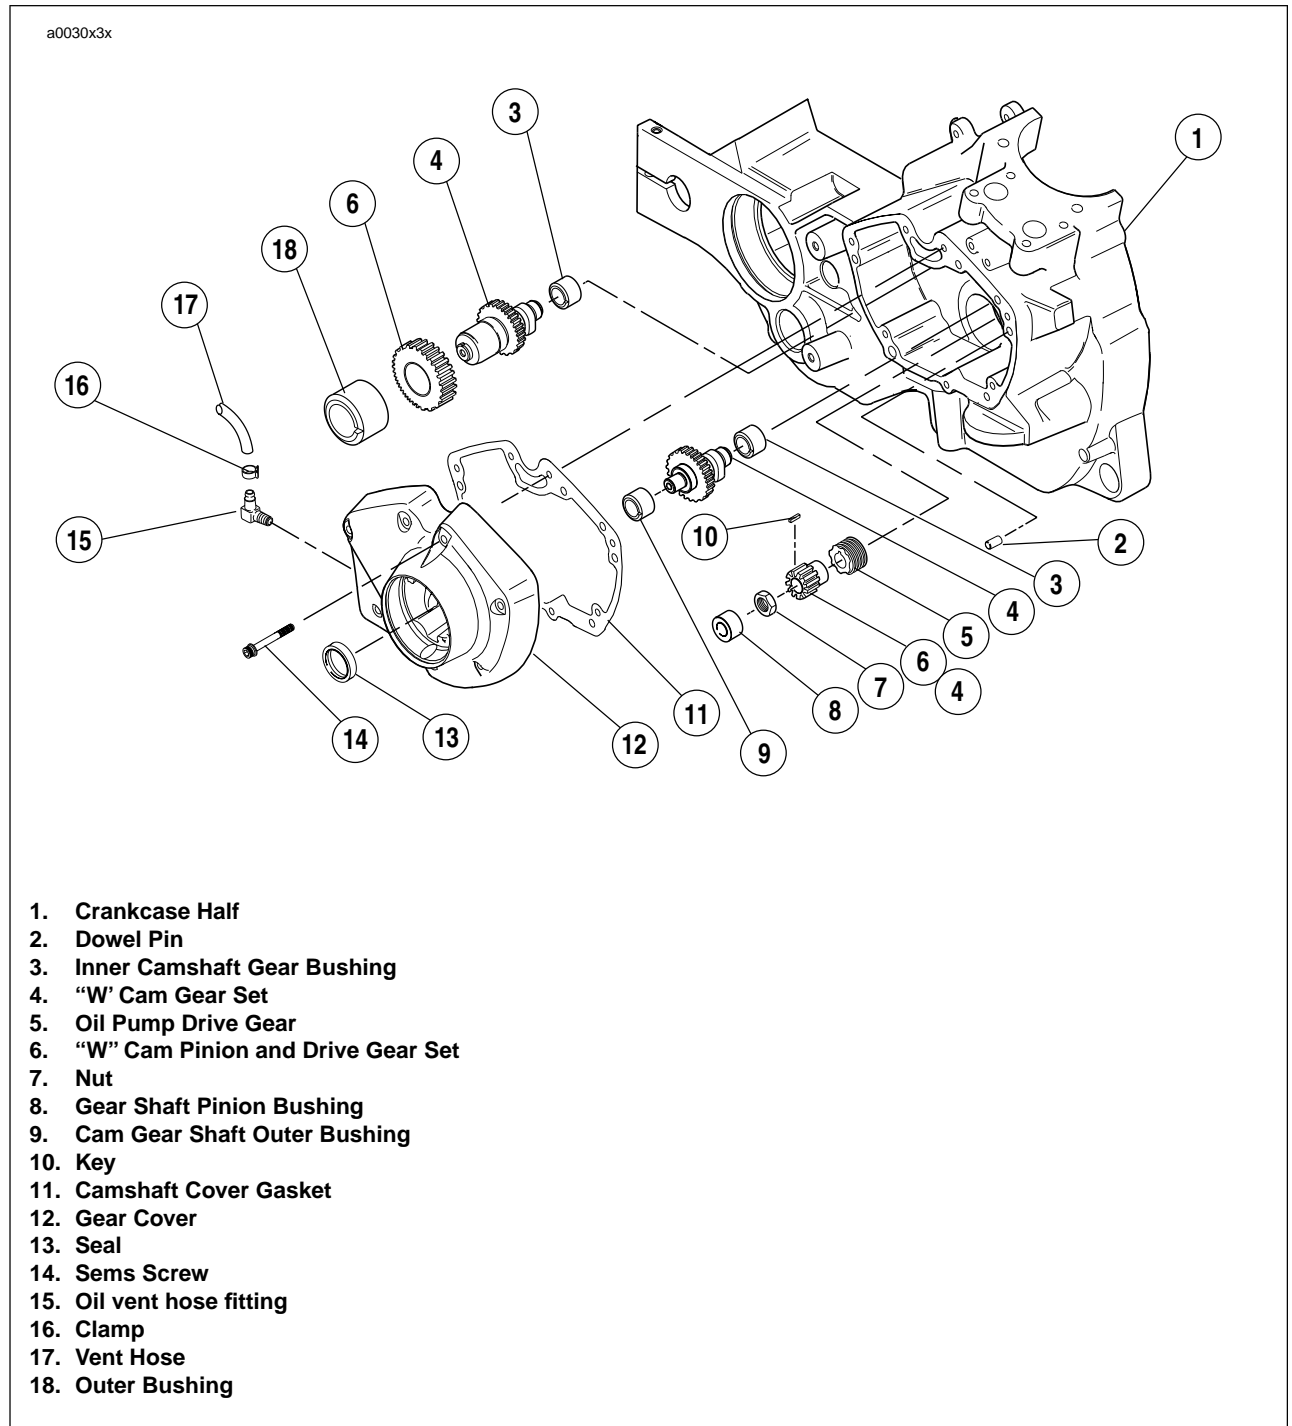

Figure 3-98. Gearcase Cover & Cam Assembly
1. See Figure 3-98. Thoroughly clean area around gearcase cover and tappets. Blow loose dirt from crankcase with compressed air.
- See Figure 3-98. Bushings are press fit in gearcase cover and crankcase. Inspect each bushing against its corresponding cam gear shaft or pinion gear shaft. See Table 3-13.
See Figure 3-98. The intake cam gear bushing must be installed in its gearcase cover bore using an arbor press. You will need to orient the bushing in a specific position of rotation within the cover bore according to the following procedures:
1. See Figure 3-98. Using an arbor press, install pinion shaft bushing in its gearcase cover so that bushing is flush with cover boss. There is no need to orient this particular bushing in any specific position of rotation within the gearcase cover bore.
1. See Figure 3-98. Bushings to be reamed must be installed in gearcase cover as described in BUSHING INSTALLATION. Attach gearcase cover to right crankcase half, which has been disassembled from left crankcase half, securing with a minimum of three mounting screws.